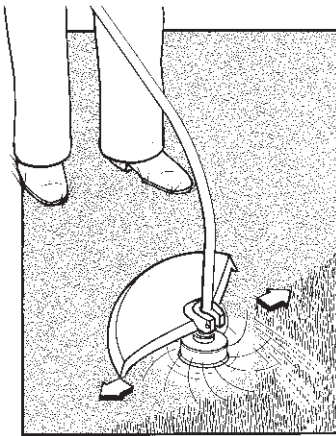

Fig. 5
1. **TRIMMING / MOWING** (Figure 5). Swing trimmer with a sickle-like motion from side to side. Do not tilt the stringhead during the procedure. Test area to be trimmed for proper cutting height. Keep stringhead at same level for even depth of cut.